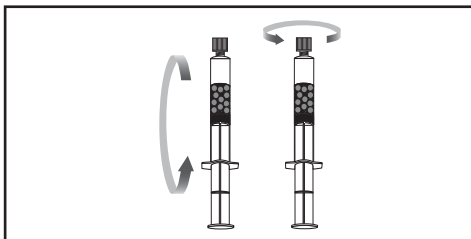

Figure 2b.
- 2.3 Mix by gently inverting/swirling the syringe every 5 minutes (Figure 2b). Hard shaking may cause foam.